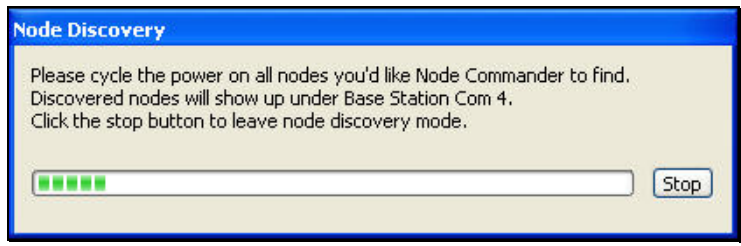

Figure 5
- Click **Node Discovery**. The **Node Discovery** window will appear. See Figure 5.